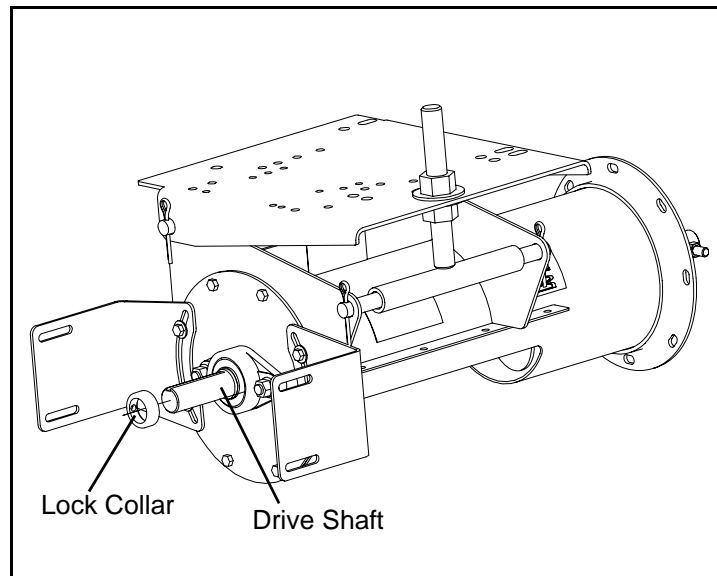

Figure 4I
1. Slide the Lock Collar over the Drive Shaft, positioning it against the bearing. Do not tighten the lock collar at this time as it will be tightened later in the assembly. (See Figure 4I).